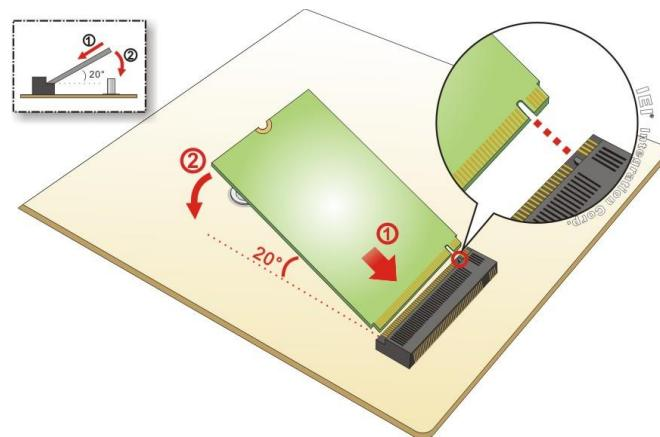

Figure 4-1: Inserting the M.2 Module into the Slot at an Angle
Step 3: Line up the notch on the module with the notch on the slot. Slide the M.2 module into the socket at an angle of about 20° (**Figure 4-1**).
Step 2: Line up the notch on the M.2 module with the notch on the slot. Slide the M.2 module into the socket at an angle of about 20°. (See **Figure 4-1**)